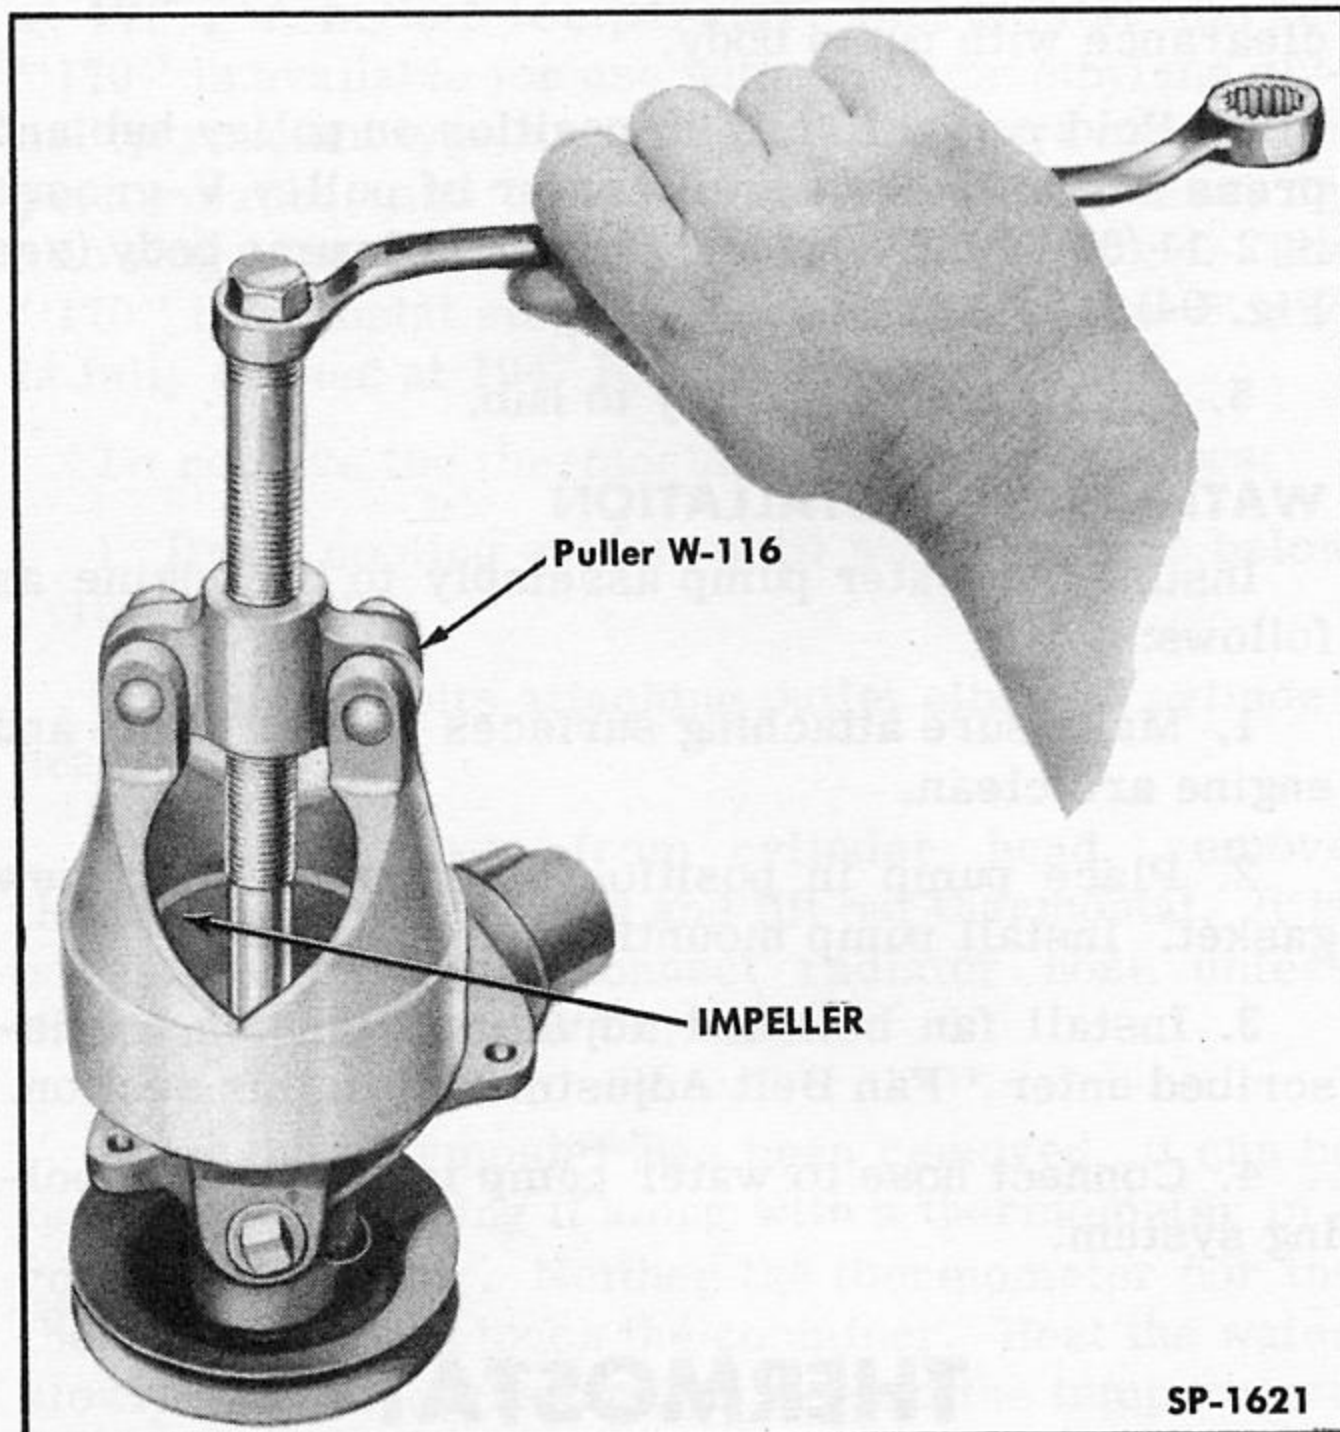

Fig. 96—Removing Water Pump Impeller—4 Cylinder
3. Remove pump impeller with Water Pump Impeller Puller W-116 (Fig. 96). If pump body is properly supported, an arbor press can be used ef-